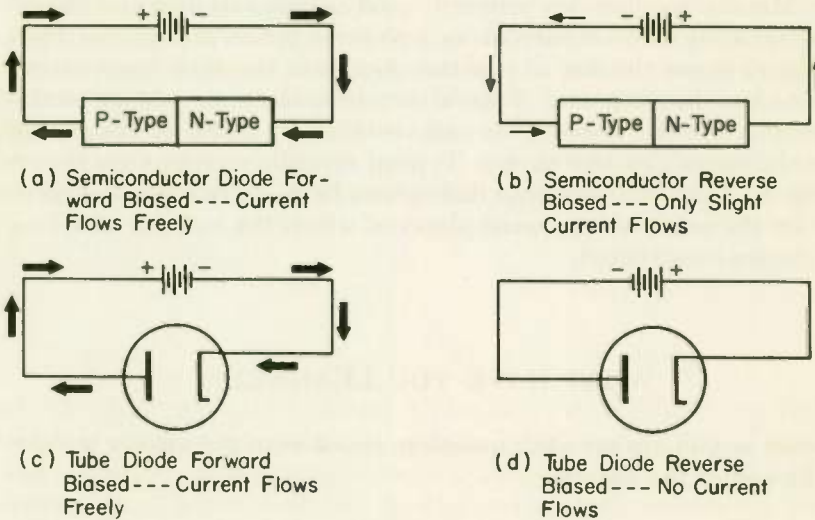
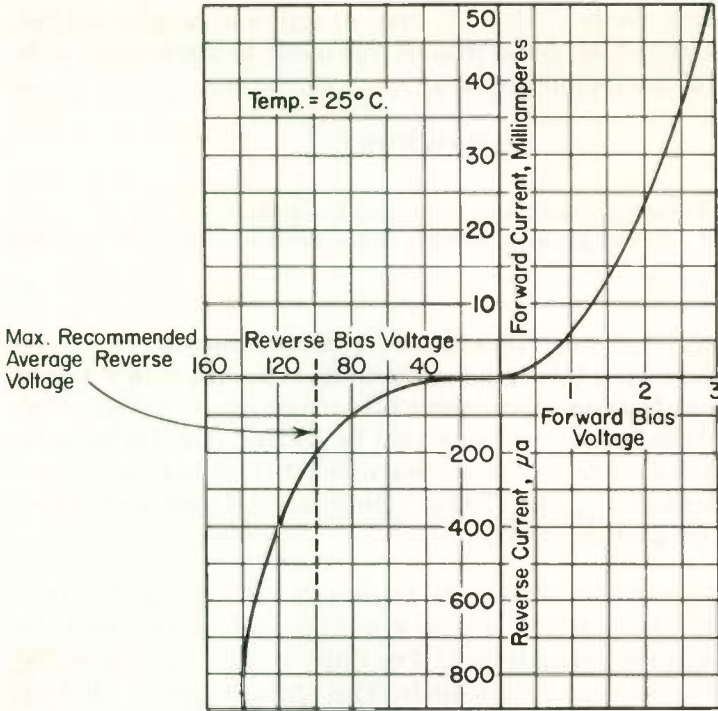

Fig. 1 Forward and reverse biasing of semiconductor and tube diodes.
Fig. 7 Volt-ampere characteristic curve for the IN63 diode.
... Connect the *Positive* terminal of the voltage source to the *P*-type material and the *Negative* terminal to the *N*-type material and the diode will act as a low resistance, conducting current freely, as shown in Fig. 1(a). The diode is then said to be *forward biased*.
If the voltage source is connected to the diode just the reverse of above, so that the negative terminal connects to the *P*-type and the positive terminal to the *N*-type material, the diode acts as a high resistance and very little current will flow. The diode is then said to be *reverse biased*. The diode of Fig. 1(b) is (1) _____ biased.
(1) reverse;
Figure 1(c) and (d) show a tube diode forward and reverse biased. To forward bias a tube diode, the positive side of the voltage source is connected to the (6) _____ of the tube, and the negative side to the (7) _____. The P-type material in a semiconductor therefore corresponds to the (8) _____ of a diode tube, and the N-type material to the (9) _____.
Because of the forward resistance of the diode, there is a power loss in the diode with forward current flow and a voltage drop across the diode. Hence, the use of diodes always results in a voltage and power loss. The voltage loss can be determined by a volt-ampere characteristic curve for the type diode being used. Such a curve for the 1N63, which is a germanium diode, is shown in Fig. 7. Reading from the
1. The maximum average forward current the 1N63 diode of Fig. 7 can carry without damage is 50 ma. If this diode is connected across a battery as in Fig. 1(a), what is the maximum voltage that the battery can have if the diode is not to be damaged? _____ volts.
3. 7.4 volts . . . Fig. 7 shows the voltage drop across the 1N63 at 10 ma to be 1.3 volts. Since the current passes through two 1N63's in series, the total voltage lost is $2 \times 1.3 = 2.6$ volts. The voltage to the gated pulse amplifier is $10 - 2.6 = 7.4$ volts.
4. 0.15 (watts) . . . From Fig. 7 the voltage at 50 ma is 2.9 volts. $P = EI = 2.9 \times 0.050 = 0.145$ watts.
10 BACKWARD CHARACTERISTICS OF A PRACTICAL DIODE . . . Figure 7 shows that for 40 volts reverse bias, the reverse current
12 REVERSE BIAS LIMITS . . . In Fig. 7 we see that as the reverse bias voltage increases beyond the maximum recommended average value, the reverse current increases rapidly and the back resistance decreases rapidly. For example at 120 volts the reverse current is (48) _____ μ amp. An increase of only 20 volts to 140 volts, doubles the reverse current to (49) _____ μ amp. The back resistance at 120 volts is (50) _____ ohms, and at 140 volts it is (51) _____ ohms. With a further increase in back voltage, the resistance drops and the current increases even more rapidly. As the back voltage continues to increase, a point is soon reached where the back resistance drops to near zero, and the back current becomes very high.